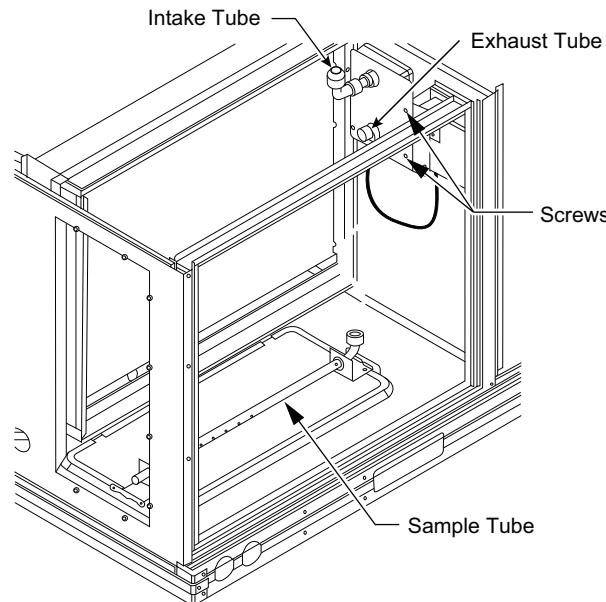

Fig. 45 – Return Air Smoke Detector Shipping Position
1. Unscrew the two screws holding the return air sensor detector plate. See Fig. 45. Save the screws.